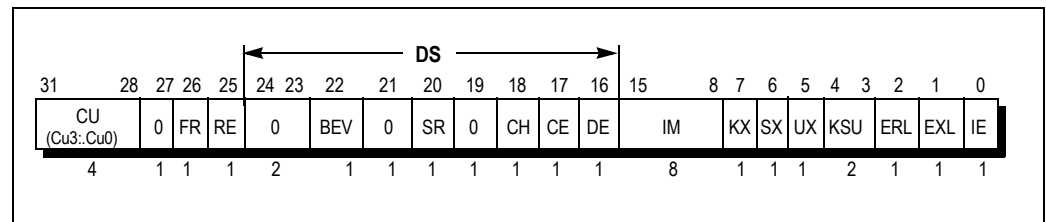

Figure 3.4 Status Register (4600/4700)
The Status register (SR) is a read/write register that contains the operating mode, interrupt enabling, and the diagnostic states of the processor. The following list describes the more important Status register fields; Figure 3.4 shows the status register format and field names.
Figure 3.4 shows the format of the Status register. Table 3.4, which follows the figure, describes the Status register fields.